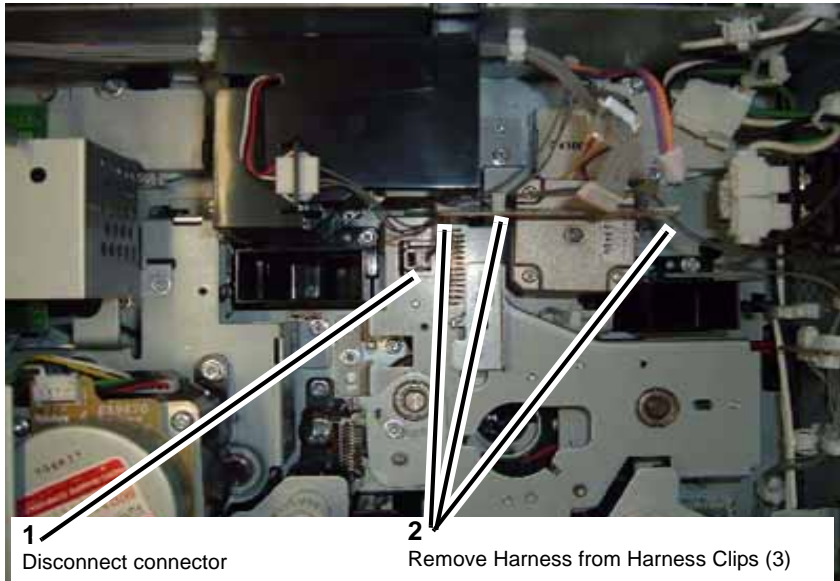

Figure 3 Disconnecting connector and releasing Harness from Clips
5. Disconnect connector and release Wire Harness from Harness Clips (Figure 3).